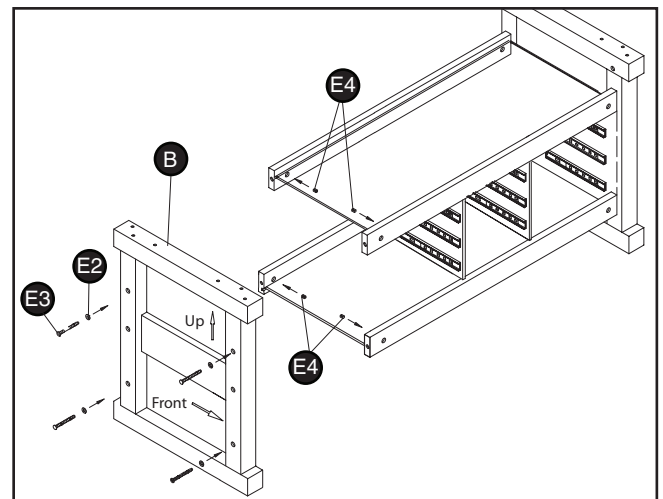
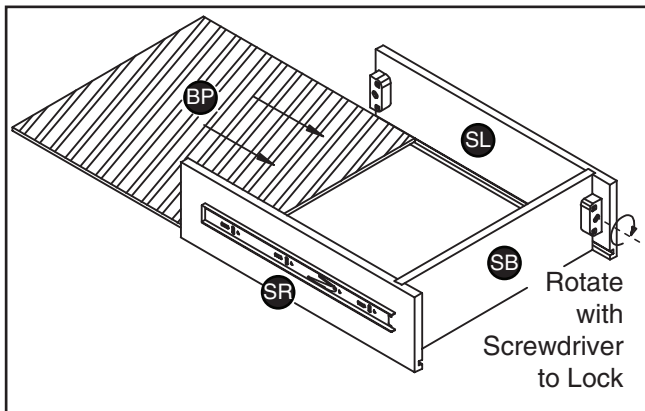

Figure 16. Left leg installation.
Figure 17. Initial drawer assembly.
- Insert the remaining four barrel nuts (E4) (Figure 16) into the other end of the previously installed cross braces.
- Position the left side leg (B) on the floor so the UP arrow is pointing upward and the FRONT arrow points to the front as shown in Figure 16.
- Carefully engage the slots in the left leg with the cross supports and panels, and place a flat washer (E2) on each remaining barrel bolt (E3) (Figure 16).
15. Align the pre-drilled holes in the underside of the work bench table top (A) with the pre-drilled holes in the legs.
17. Using a standard screwdriver, attach the right (SR) and left (SL) drawer sides to the drawer backs (SB). Then slide the drawer bottoms (BP) into the drawer side grooves (Figure 17) until they are fully seated in the grooves.